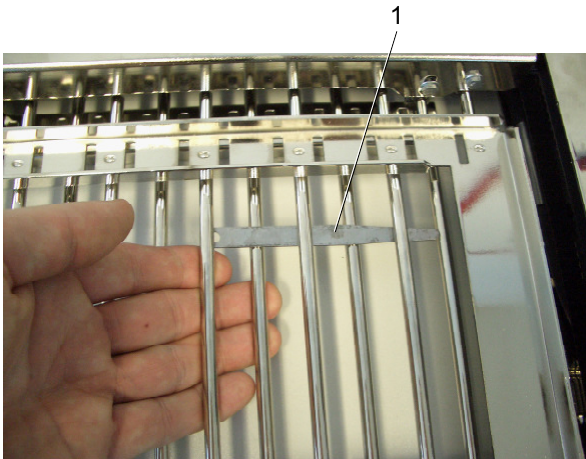

Fig. 65 Pull the fold plate grate upwards
11. Slide the feeler gauge (Fig. 65/1) on the right-hand side of the fold plate into the fold plate infeed between the lower lip and deflector.